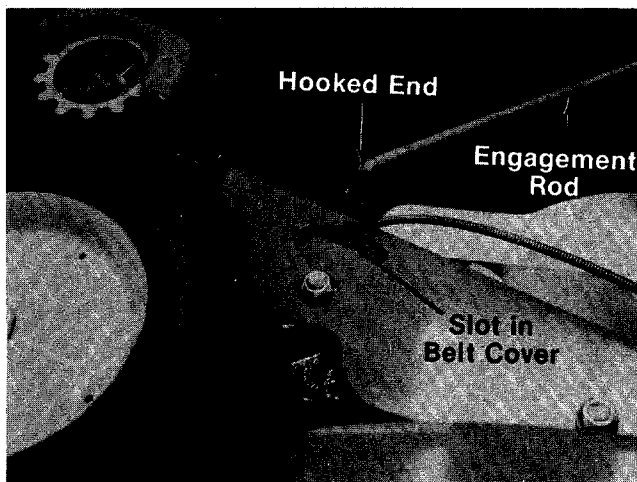
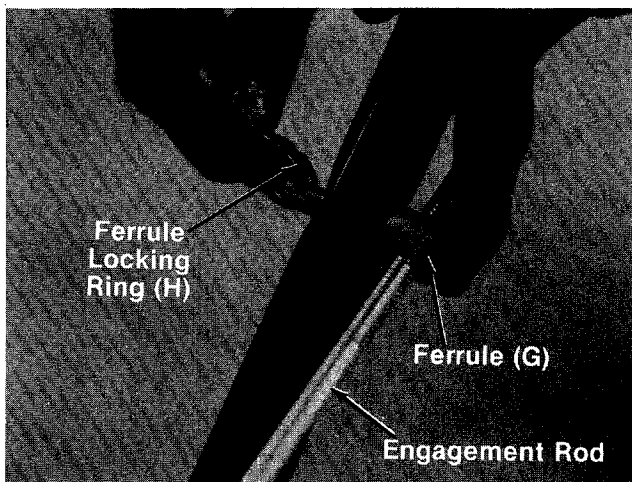

FIGURE 10.
FIGURE 11.
16. Hook the end of engagement rod into idler bracket located inside slot on belt cover. See figure 10.
18. With handle in the down position (released), place ferrule (G) on threaded end of engagement rod. Thread ferrule onto engagement rod until it lines up with the hole in lower handle.
19. Place ferrule into hole in lower handle. Secure with ferrule locking ring (H). See figure 11.